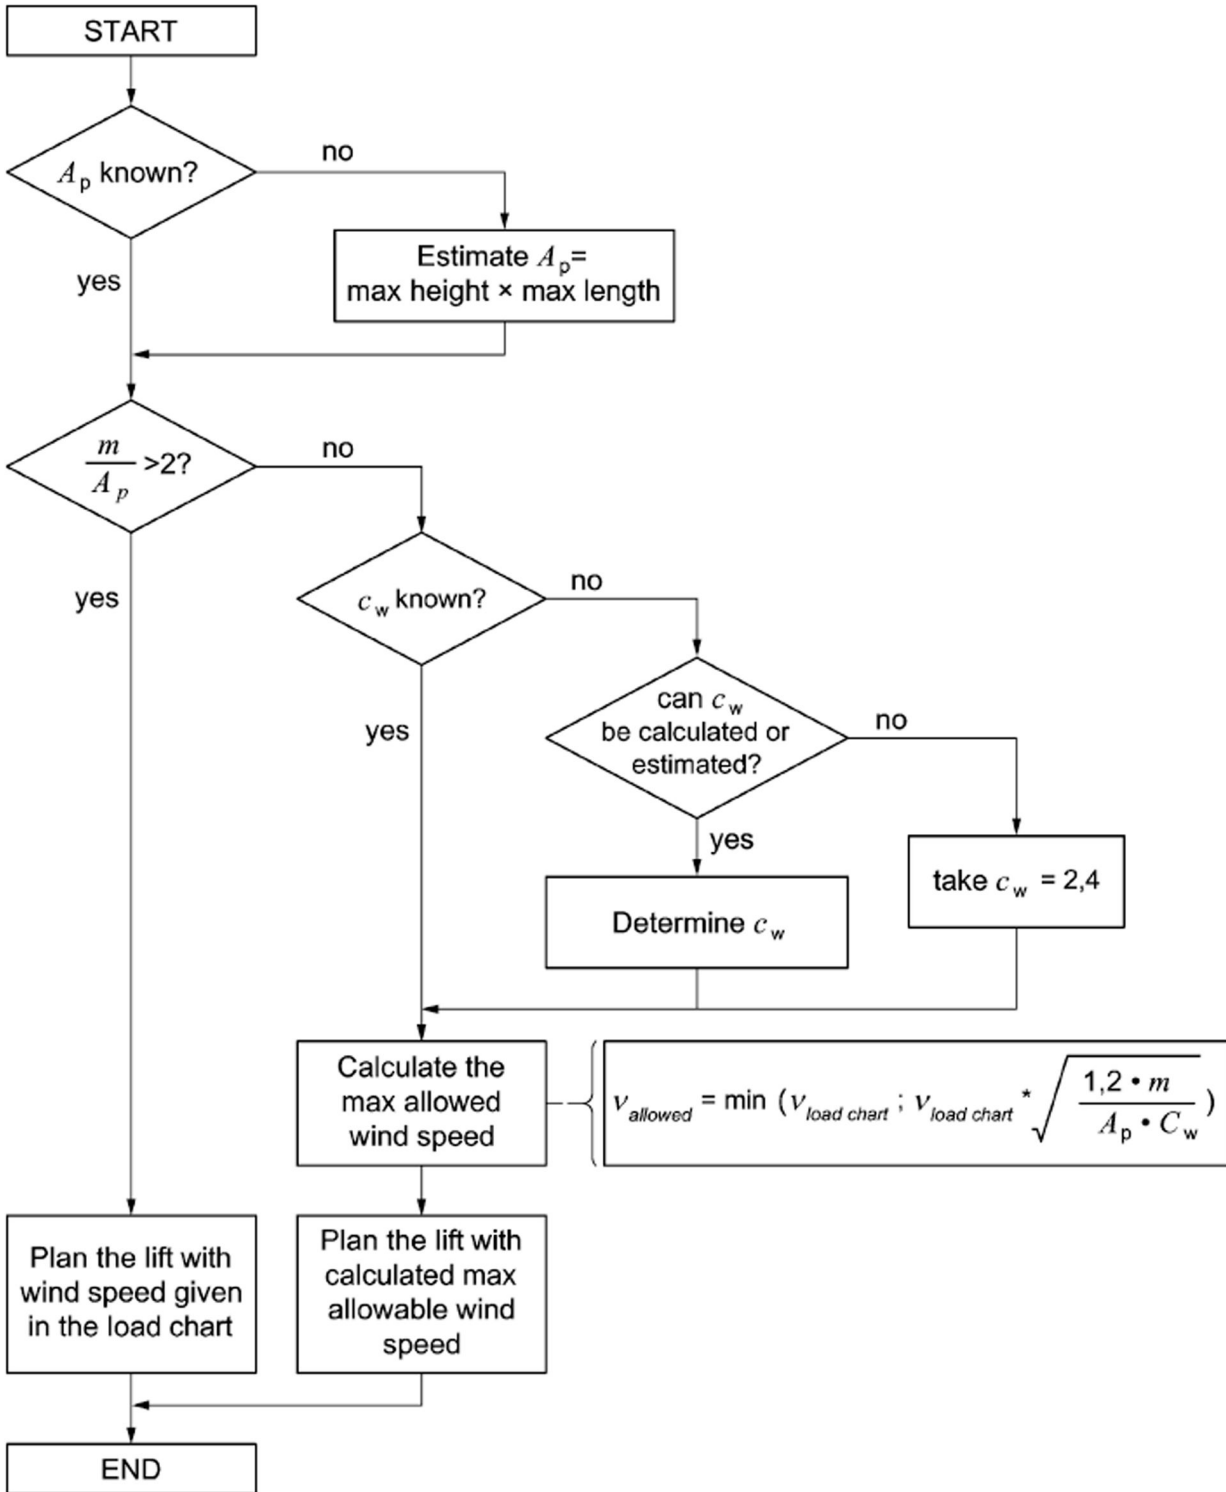

Fig. 723: Simplified method to determine the maximum admissible wind speed in accordance with EN 13000 Appendix N
- ▶ Note that the area exposed to wind of the load considered in the load calculation is $1.2 \text{ m}^2/\text{t}$ (cw value as factor already considered). If the load's area that is exposed to wind is larger: Calculate maximum permissible wind speed (see: fig. 723, page 594) or contact Liebherr customer service. Loads may not be picked up until this evaluation has been performed.